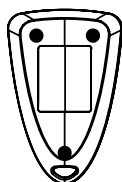

Figure 5. Battery cover
1. Open the battery cover by unscrewing the 3 screws on the backside of the transmitter housing (see fig. 5).